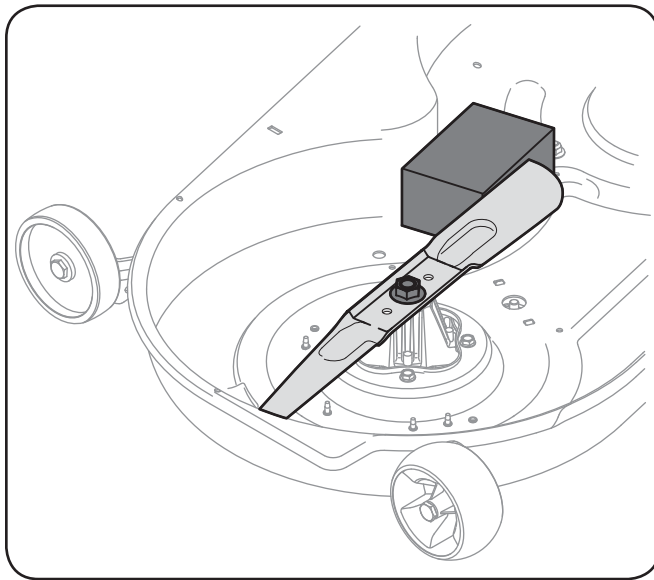

Figure 7-6
2. Place a block of wood between the deck housing baffle and the cutting blade to act as a stabilizer. See Figure 7-6.
3. Remove the hex flange nut that secures the blade to the spindle assembly. See Figure 7-6.